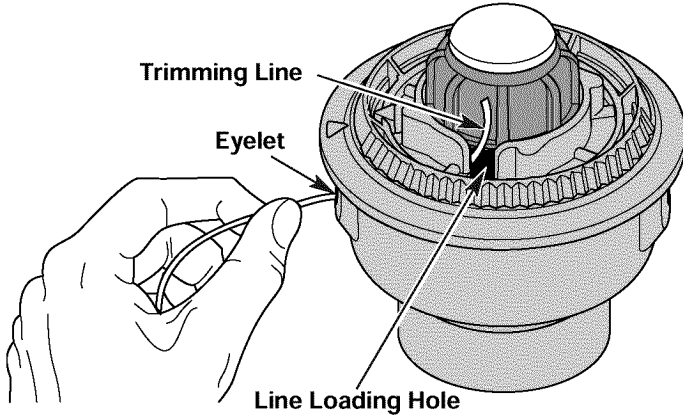

Fig. 17
3. Pull old line out of the line loading and line locking holes (Fig. 17 and 18).
4. Insert a piece of trimming line straight into one of the two eyelets in the outer spool. Push it up through the line loading hole in the inner reel (Fig. 17). Do not bend the line when inserting it into the eyelet.